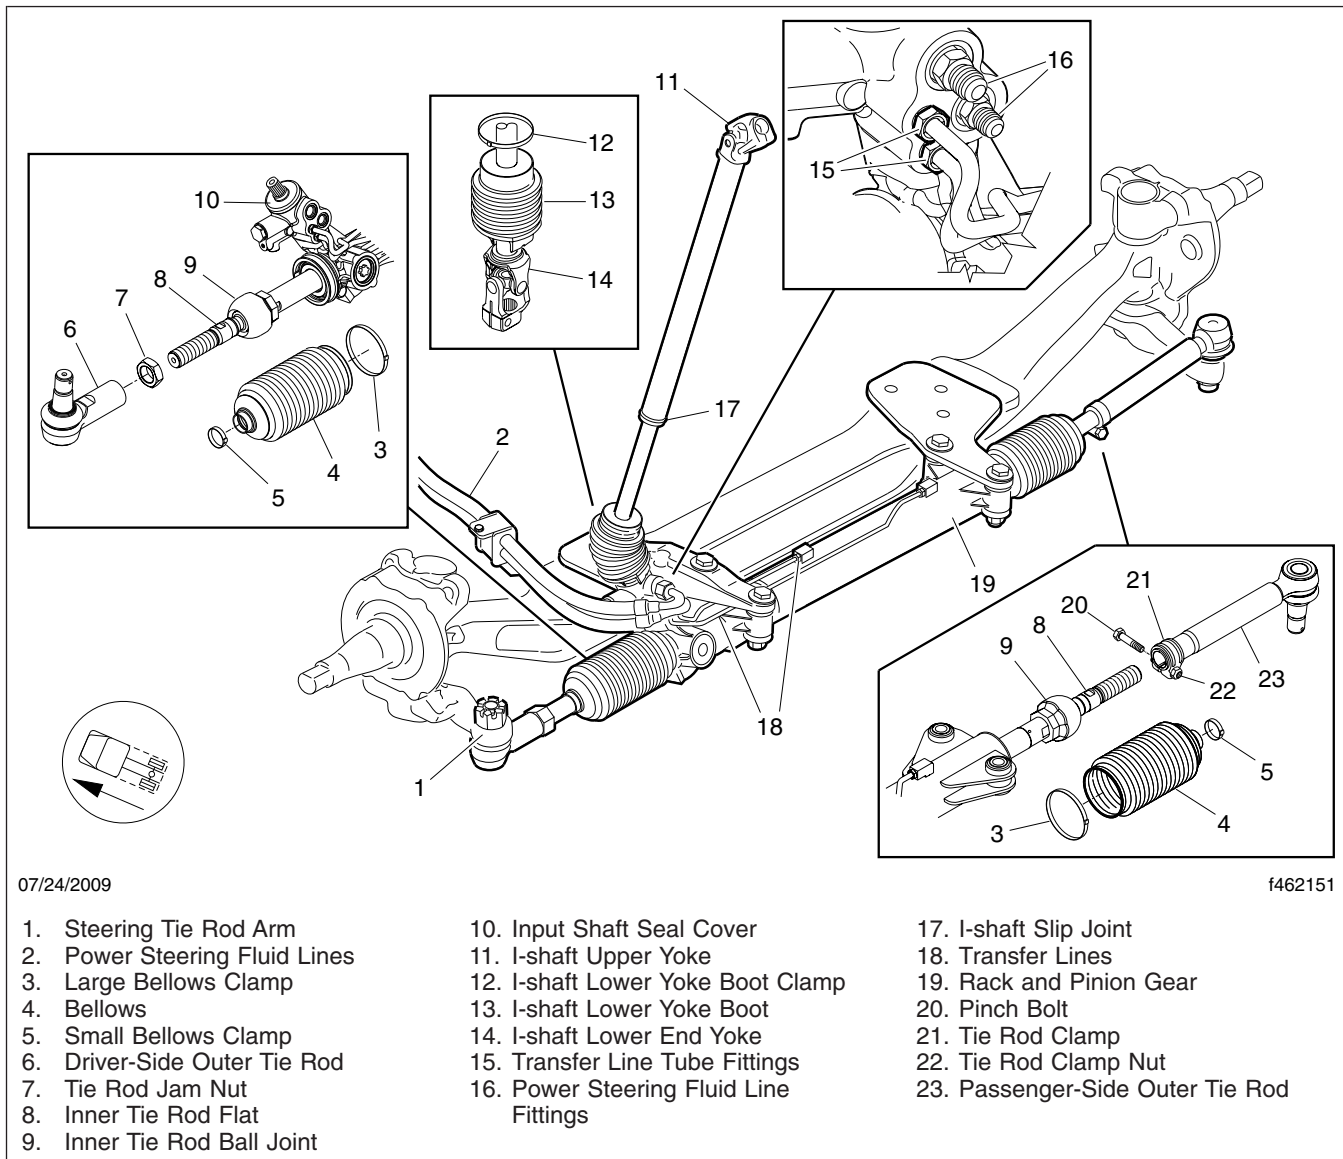

Fig. 4, Rack and Pinion Steering System
Inspect the rack and pinion steering system as described below, and repair or replace any components that are worn or damaged. Figure 4 shows the components of the rack and pinion steering system.
10. Check the tube fittings on the hard transfer lines of the gear, see Fig. 4, Item 15. If there is leakage from either of the fittings, replace the steering gear.
- 4.2 On the driver's side, loosen the jam nut. See Fig. 4. Note the number of exposed threads and the position of the outer tie rod to ease installation.
7. Disconnect the outer tie rods from the inner tie rods. If necessary, use a backup wrench on the inner tie rod flat to turn the inner tie rod. See Fig. 4.